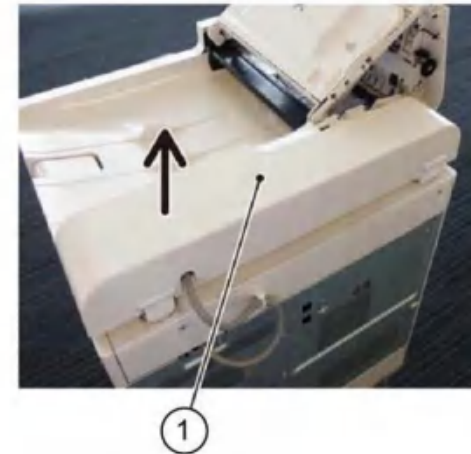

Figure 4 Rear cover removal
4. Remove the DADF rear cover in the direction of the arrow, Figure 4.